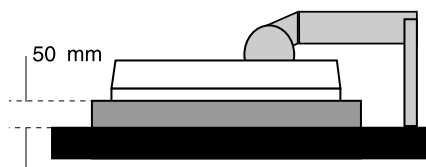

Figure S.1
2. Place monitor face down on a non-abrasive surface (Place the screen on a 50 mm platform so that the stand is parallel with the surface.) (**Figure S.1**).